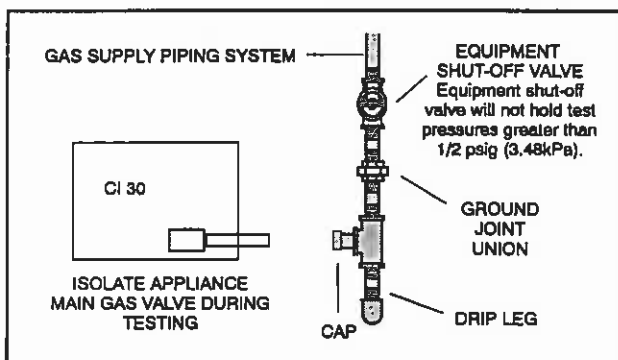

FIGURE 11
- 5 - In some localities, codes may require installation of an equipment shut-off valve and union (both furnished by installer) external to the unit. Union must be of the ground joint type. See figure 11.
The appliance and its appliance main gas valve must be disconnected from the gas supply piping system during any pressure testing of the gas supply system at test pressures in excess of 1/2 psig (3.48 kPa). See figure 11.